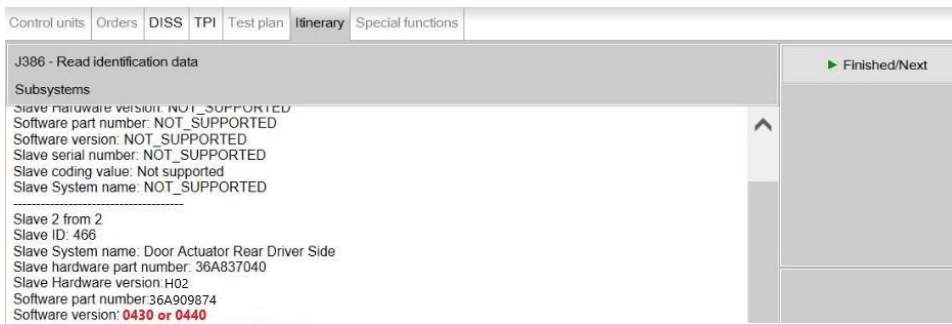

Figure 1
- The Software version criteria has changed as detailed below and Figure 1 **Hint:** Previously it was 0430 version only now the criteria is **0430 or 0440**
In the event the software version is **0430 or 0440** (Figure 1) the operative MUST raise a Technical DISS query stating the following: